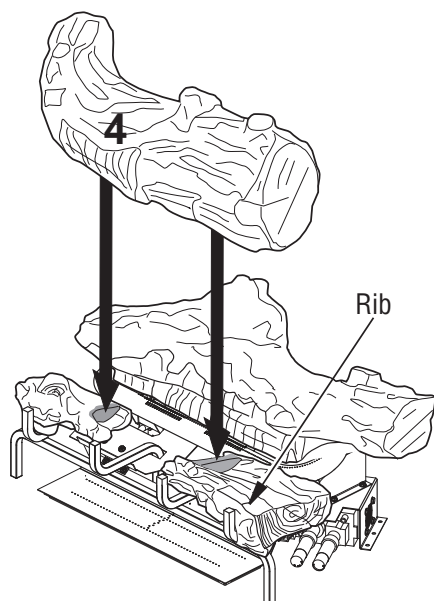

Figure 23 - Installing Log #4
4. Place front log (#4) on top of left and right bottom logs as shown in **Figure 23**. Notches in bottom of log #4 will fit over ribs in logs #2 and #3.